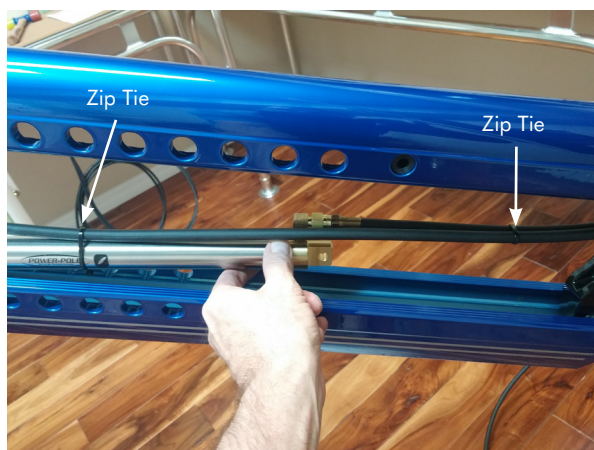

Figure 2
- STEP 2** Remove the hardware that attaches the bottom of hydraulic cylinder to the Power-Pole anchor and pull cylinder down to gain access to the fitting. (**FIG. 2**)
- STEP 4** Cut both zip ties and remove both hoses from the Power-Pole anchor. (**FIG.2**)
STEP 10 Secure the "Up" & "Down" hydraulic hoses together about 4" to 5" from the bottom of hydraulic cylinder using one of the supplied zip ties. (**FIG. 2**)